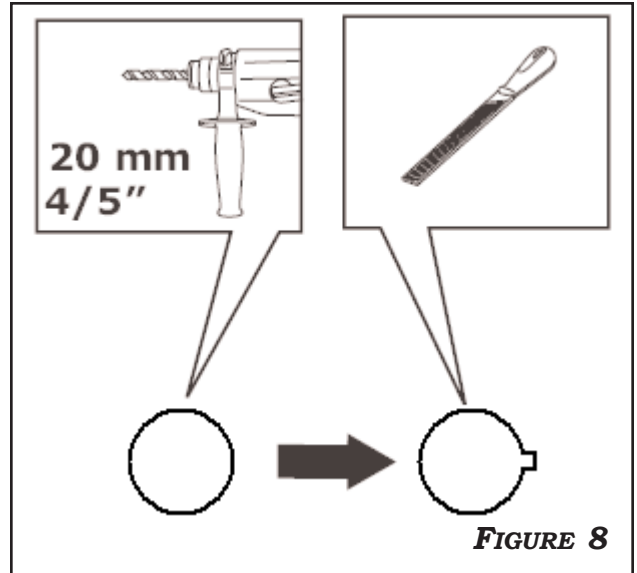

FIGURE 8
- A. MARK THE SWITCH LOCATION, CUT AN OPENING USING A PUNCH TOOL OR DRILL BIT (4/5 IN OR 20MM). **FIGURE 8**